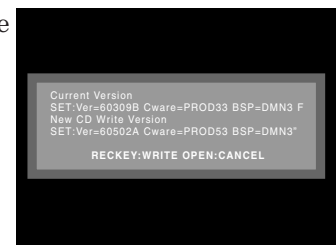

Fig. 3-4-6
- 2) Press the REC button on this HDD/DVD recorder three times: Both the current version of main firmware and the version of main firmware on the disc will appear on the screen (Fig. 3-4-6).